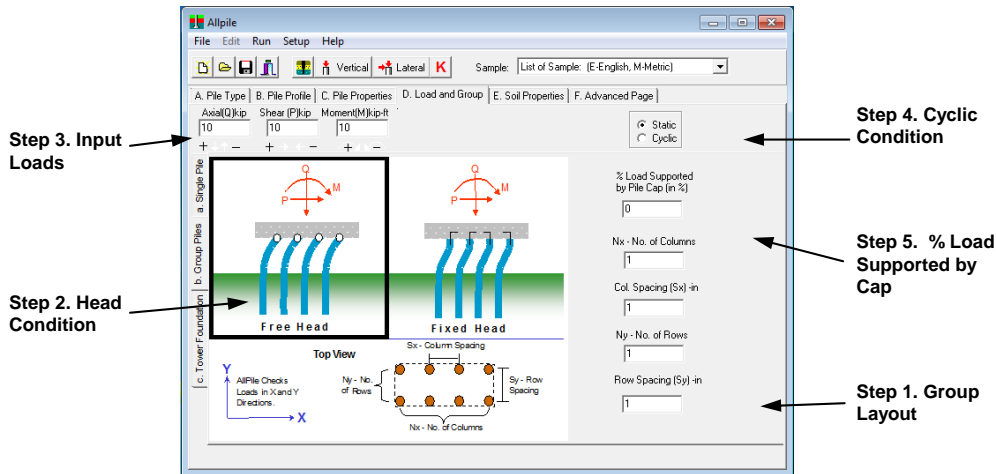

Figure 4-8. Pile No. & Loading Page
Assuming the lateral load (P) is acting in X direction, as shown in Figure 4-8, the following data are required for group configuration:
The piles within a group have two possible head conditions as shown on Figure 4-8.